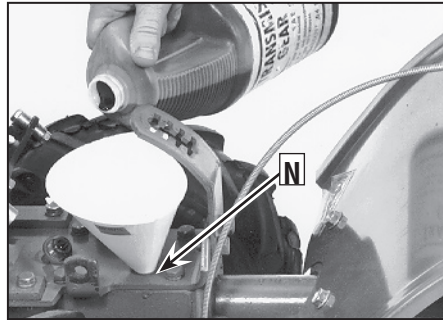

Figure 2-11: Adding gear oil.
- (a) Clean area around the fill hole (N, Figure 2-11) and unscrew gear oil fill plug.
- (c) Using a clean funnel, slowly add gear oil until it flows from the gear oil level check hole (N, Figure 2-11).